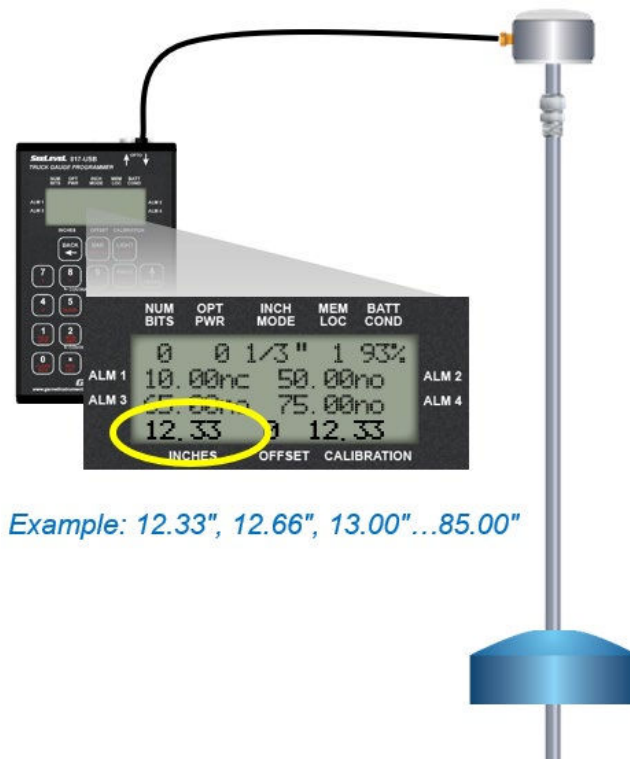

Figure 3.5.6b Verifying Bar Operation
2. Move the float on the bar up and down to ensure proper functioning. (See Figure 3.5.6b)